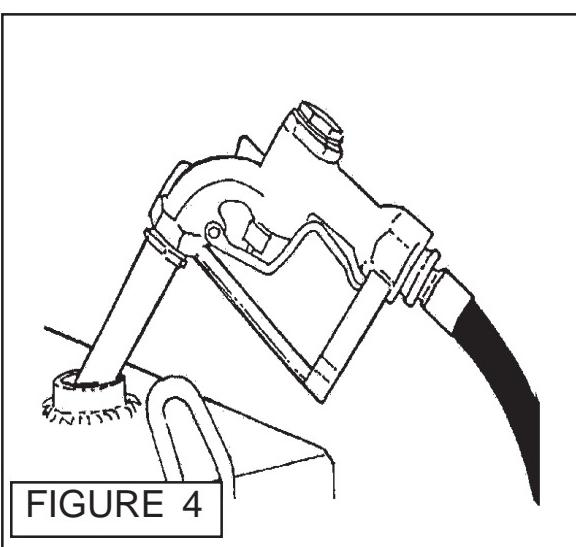
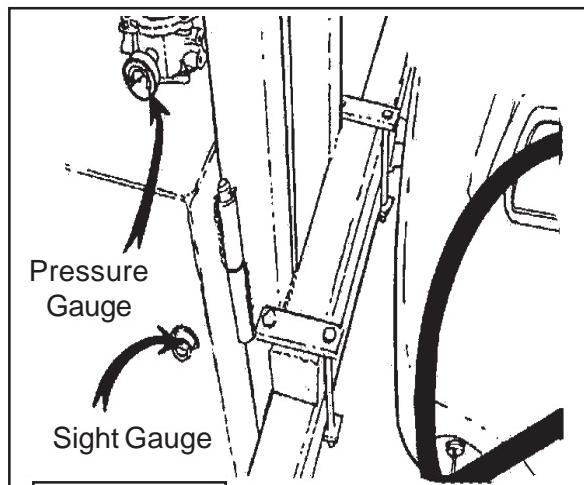

FIGURE 4
FIGURE 5
1. With a forklift or hoist, lower the Boom Weldment down in the Ditcher Head. Align the Boom Weldment with the Ditcher Head Hitch Post together. Insert special pins p/n 02958929 into Boom Weldment and Hitch Post. Attach with washer P/N 00749185 and roll pin P/N 00610600. **NOTE:** Additional support may be needed at the end of the Boom to aid in installation. (See Figure 5).
4. **When adding Oil in the field** keeping it clean is critical, do not use dirtying funnels or hoses. Do Not open Hydraulic tank or any containers unless the openings have been cleaned first. The outside of the containers must be clean. If a windy dusty day do not fill and allow dirt to blow into oil. Always add Oil using a pump system with at least a 10 Micron filter system. (See Figure 4)
5. **Fill Tank.** Fill the Hydraulic Tank (See Figure 4) Fill tank till the Oil is visable in the sight Gauge (See Figure 5 & 8). This will fill tank for the start but it will have to filled again later.
5. **Marking Boom.** Use a Black (or color desired) to mark the Boom, Make a Line on the Boom parallel with the Bolt on Boom Rest across the Boom, (**See Figure 5 & 6**). This line will be used to align the the Boom Plate Rest Hook for welding to Boom.